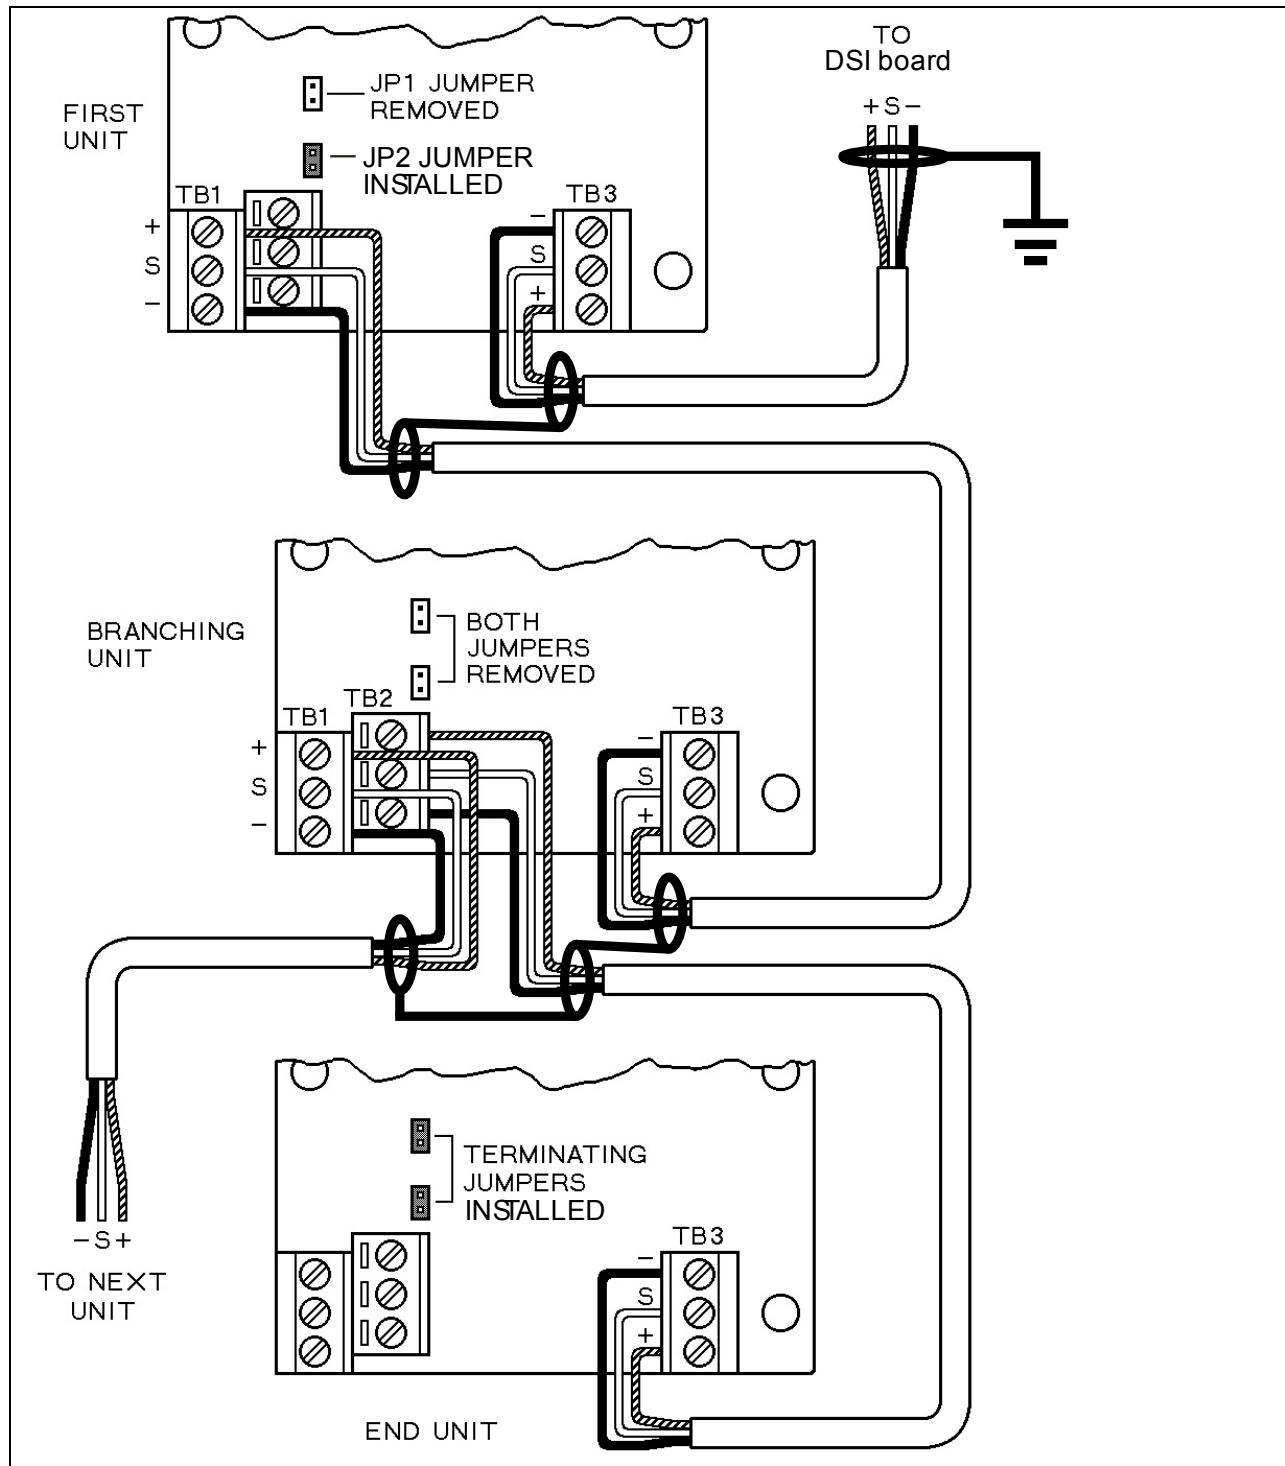

Figure 8-4 1225 Sensor Module Wiring and Termination
- If you have connected 122X Sensor Modules to the monitor and are experiencing a fault you will need to check the inputs and output wiring and either the end of line termination jumpers or dipswitch settings. See Figure 8-1 to Figure 8-4.